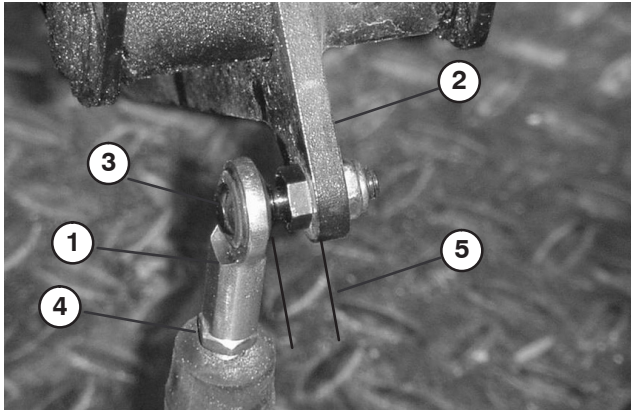

Figure 4
10. Mount the clutch cable rod end to the clutch pedal with the nut previously removed (Fig. 4). Make sure the rod end is not twisted on the ball stud and is parallel to the clutch pedal.
Important Make sure the rod end is positioned squarely on the ball, not twisted, and remains parallel to the clutch pedal after the jam nut is tightened (Fig. 4).